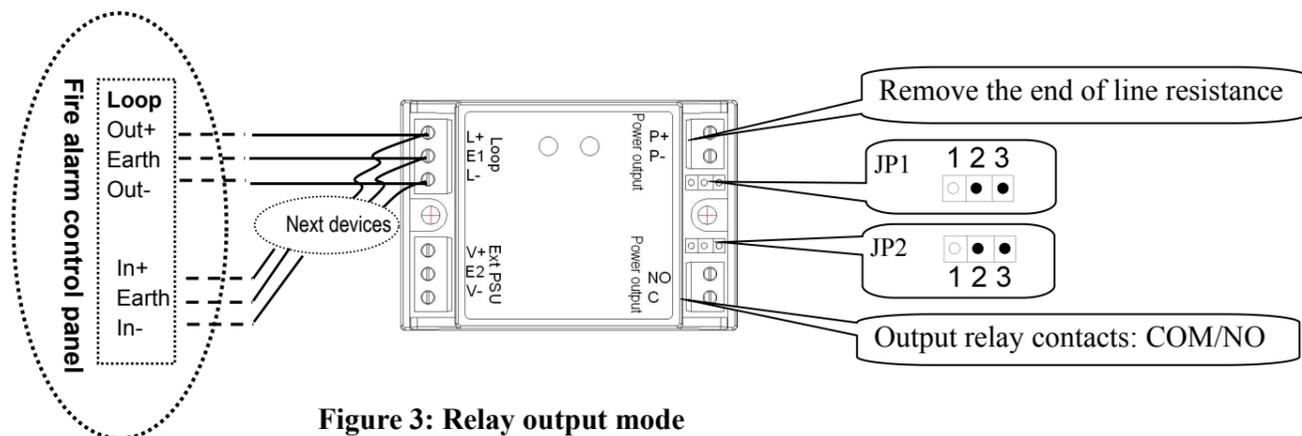

Figure 3: Relay output mode
1. Set the pin2 and pin3 of the jumper JP1 and JP2 to connected on the module as figure 3.